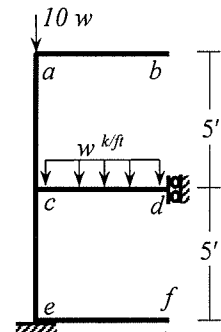

Fig.11
10. Use Stiffness Method (neglecting axial deformations) to calculate the value of applied load w required to cause buckling of the frame $abcdef$ loaded as shown in **Fig.11**